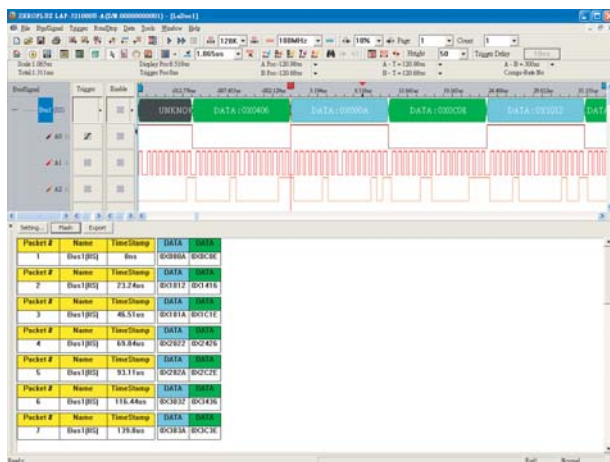

Figure 1
▶ Referring to the Figure 1, the above dialog box is the ZEROPLUS Logic Analyzer Module Configuration dialog box, after user connects the circuitry, only to set up the relative channel and Bus Format, it can analyze. BUS can according to I2S in common use format to set up, it has three Formats: flush Left, I2S (it is the Philips stated format) and flush Right. It also can set up Data Bit: 16 bit, 20bit, 24 bit, 32 bit.